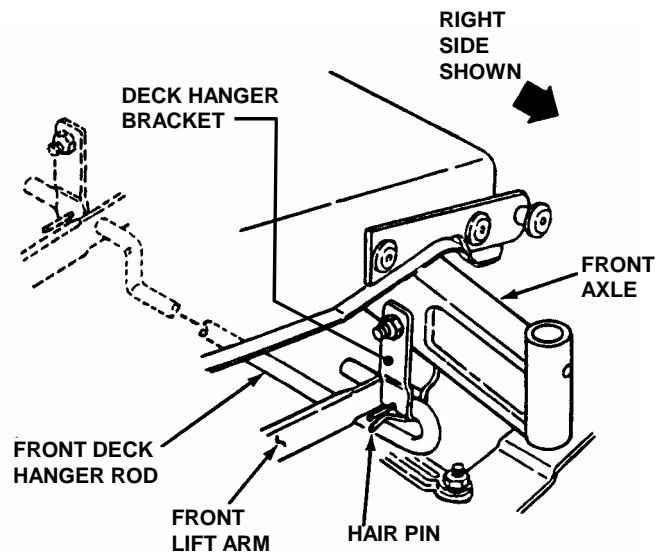

FIGURE 4.19
5. Remove hair pins from the front deck hanger rod and slide out the rod from deck hanger bracket. Front lift arms will be now be disconnected. See Figure 4.19.